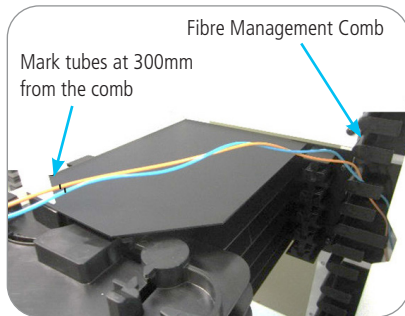

Figure 6.
- Mark the tubes at a distance of 300mm from the fibre management comb. See **Figure 6**.